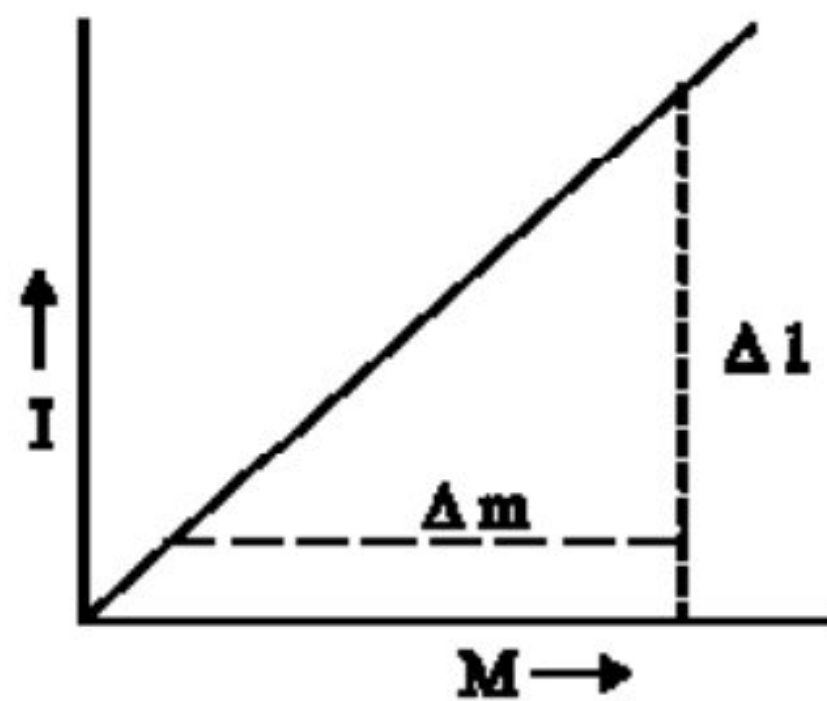

Fig. 6.2: Graph between M and I
- (iv) Plot a graph between extension I (on y-axis) and load M (on x-axis) (Fig 6.2). Draw the best straight line through the points plotted and the origin, which is also an observation - zero extension for zero load.